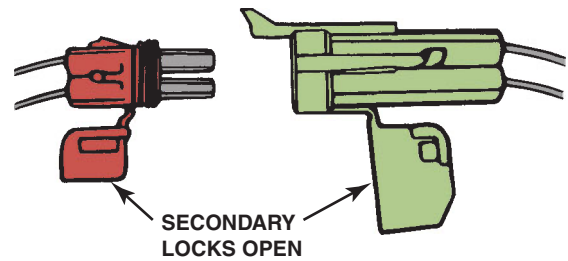

FIGURE 44-16 The secondary locks help retain the terminals in the connector.
- STEP 3** Release the secondary lock, if equipped. ● **SEE FIGURE 44-16.**